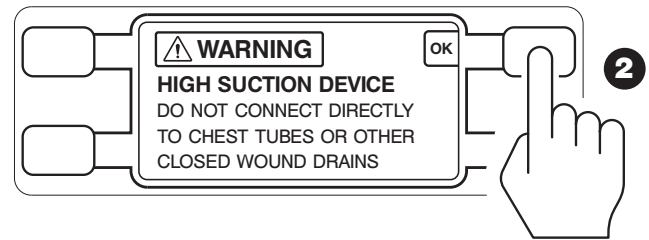

Figure 46 High Suction Device Warning
2. Read the **WARNING** message on the control panel display, then push the control panel display button next to **OK** to access the **CONTROL** screen (Figure 46).